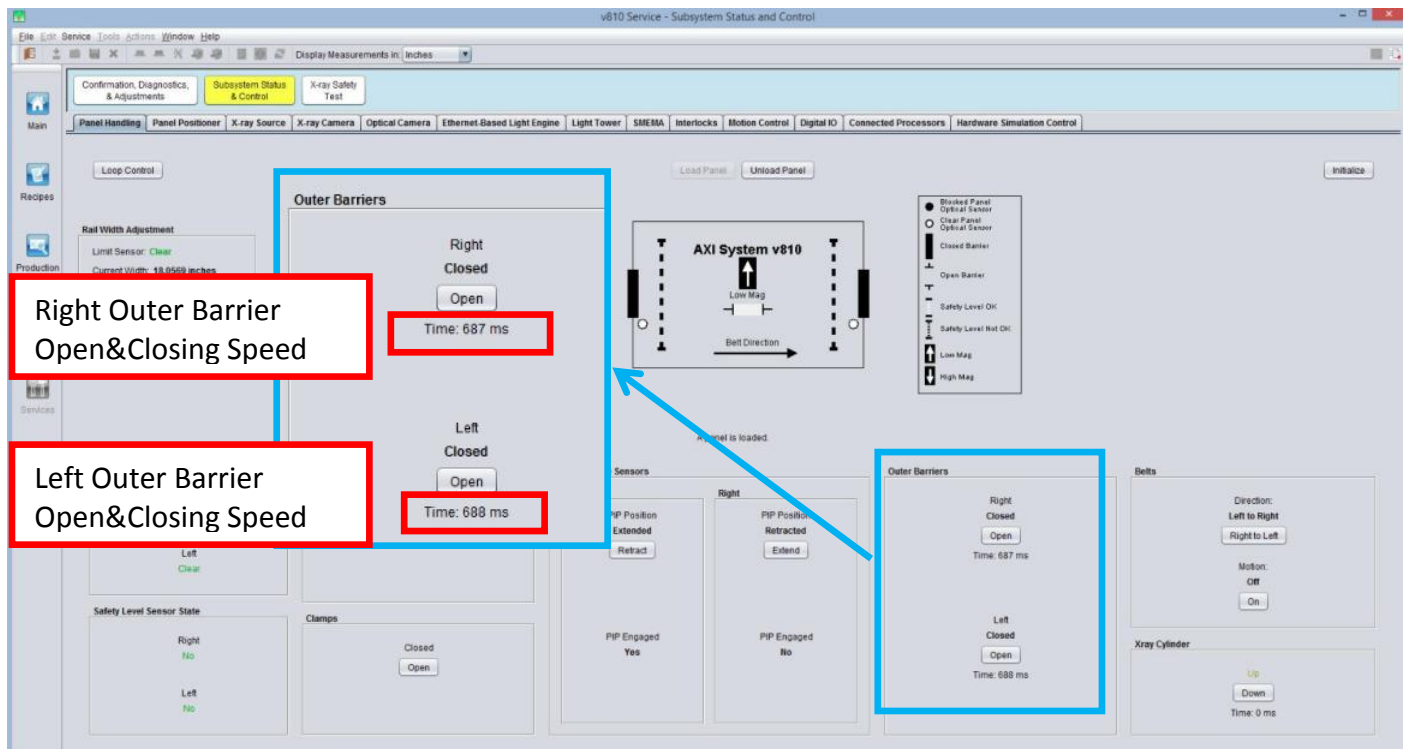

Figure 10 Outer Barrier Opening & Closing Duration
19. Open & Close particular Outer barrier which perform Valve Replacement .Record down Opening & Closing duration as below Figure 10.